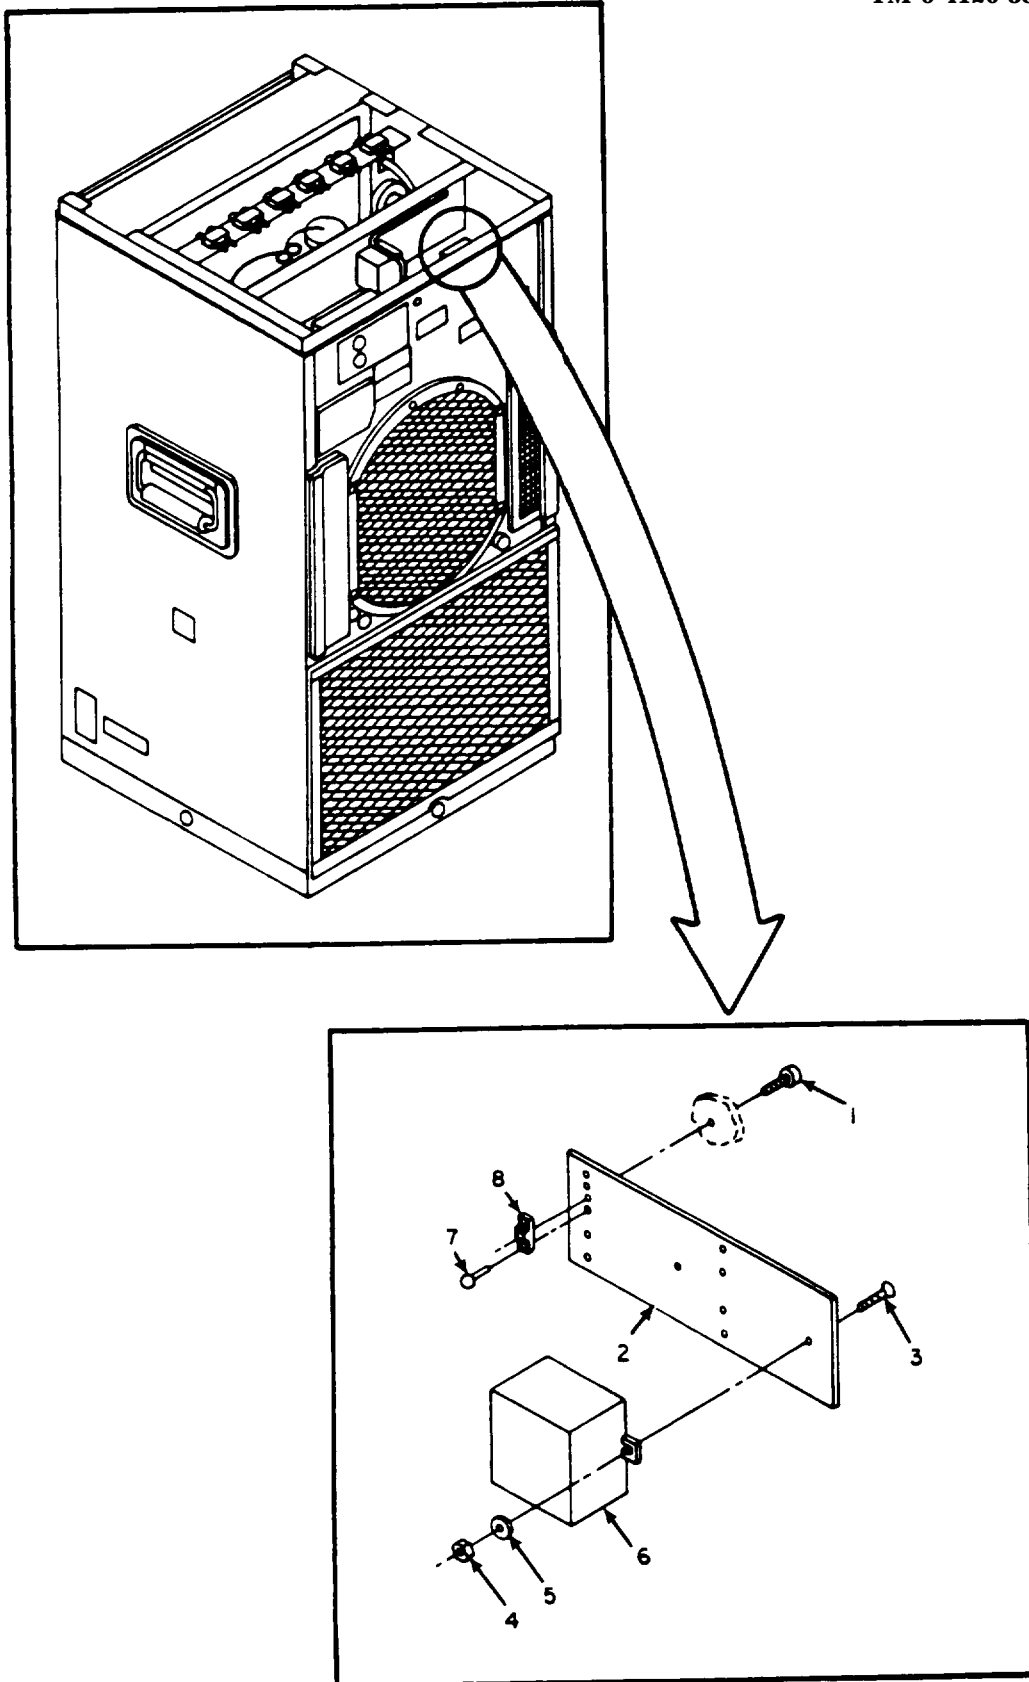
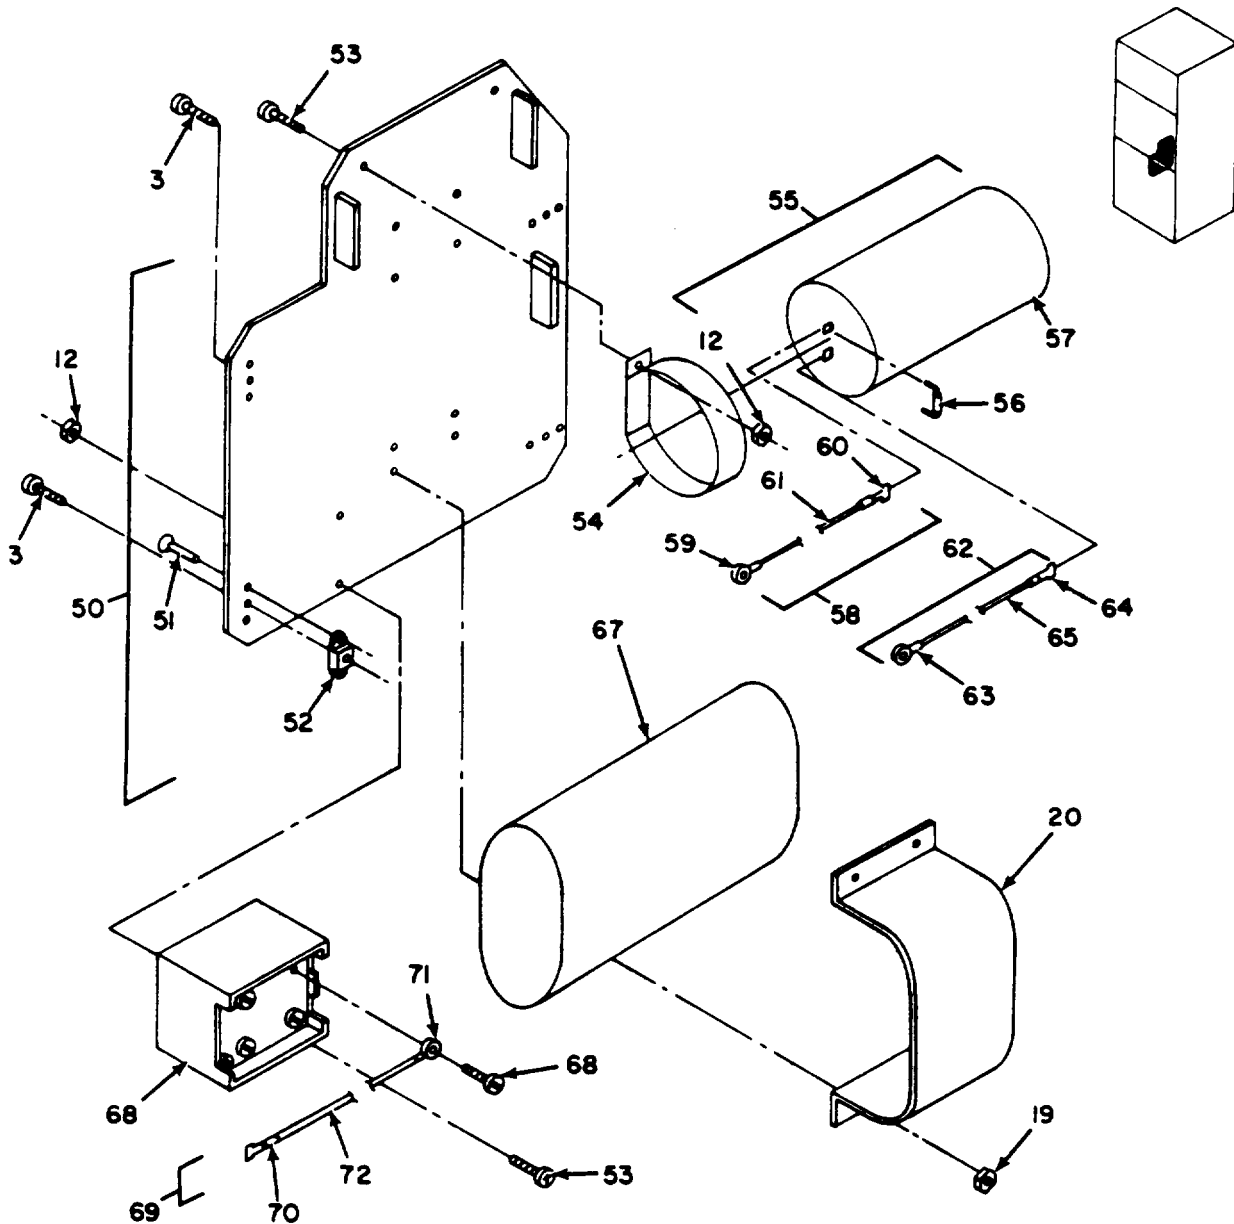

Figure 4-30. Relay (K7).
Figure 4-31. Relay (K10) and Capacitors (C2 and C4).
2. Disconnect and tag leads from relay (K7) (Fig 4-30, item 6).
3. Hold relay (6) securely while removing four screws (1) that retain bracket (2).
4. Remove bracket (2).
5. Remove three screws (3), flat washers (5), and nuts (4) to remove relay (6).
6. Floating nuts (8) may be removed by removing two rivets (7).
7. Locate bracket (Fig 4-31, item 50) to the left of compressor and remove four screws (3) to release.
7. Replace defective relay. Refer to Figure 4-30.
- 11. Replace defective relay. Refer to Figure 4-31.
1. Mount relay (K7) (Fig 4-30, item 6) to bracket (2) with three screws (3), flat washers (5), and nuts (4).
3. Mount bracket (2) to rear panel using four screws (1).
4. Mount relay (K10) (Fig 4-31, item 68) to bracket (50) with screw (53).
5. Mount capacitor (C2) (67) with clamp (66) and four screws (13) and nuts (19).
6. Attach resistor (56) to capacitor (C4) (57).
7. Slide two clamps (54) onto capacitor (C4) (57) and secure with one screw (53) and nut (12) each.
8. Connect all leads to relay (68) and capacitors (55 and 67). Refer to wiring diagram FO-1.
9. Mount bracket (50) to inside left wall using four screws (3).